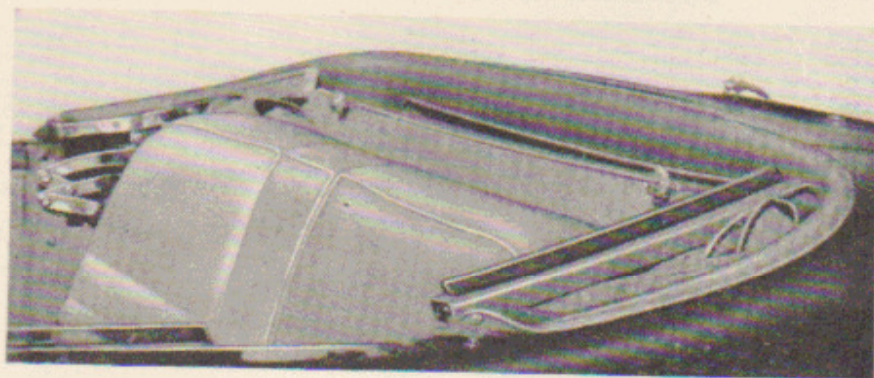

Fig. 27. Hood folded.
3. Push hood back and down (see Fig. 27).